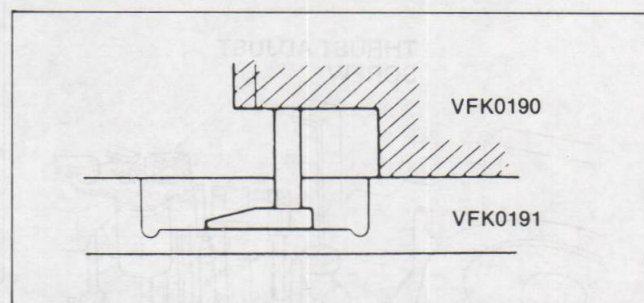

Fig. M7 Adjustment of Reel Table Height-(1)
3. Place the Reel Table Height Gauge on the plate so that the scraper of the gauge touches the cut-out portion of the plate, then set the gauge to zero "0" as shown in Fig. M7.